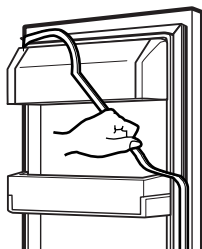

Figure 3
2. Open door. Loosen top hinge cover screw (1).
- Use flat tip screwdriver to pry back hooks on front underside of cover (2). Lift up cover.
4. Pull out the tube (3).
5. Disconnect the three wire harnesses (4). Remove the grounding screw (5).
6. Rotate hinge lever (6) counterclockwise. Lift top hinge (7) free of hinge lever latch (8).
▶ Right Door -FIG. 3
1. Open door. Loosen top hinge cover screw (1). Lift up cover (2).
3. Disconnect wire harness (3).
4. Remove the grounding screw (4).
5. Rotate hinge lever (5) clockwise. Lift top hinge (6) free of hinge lever latch (7).